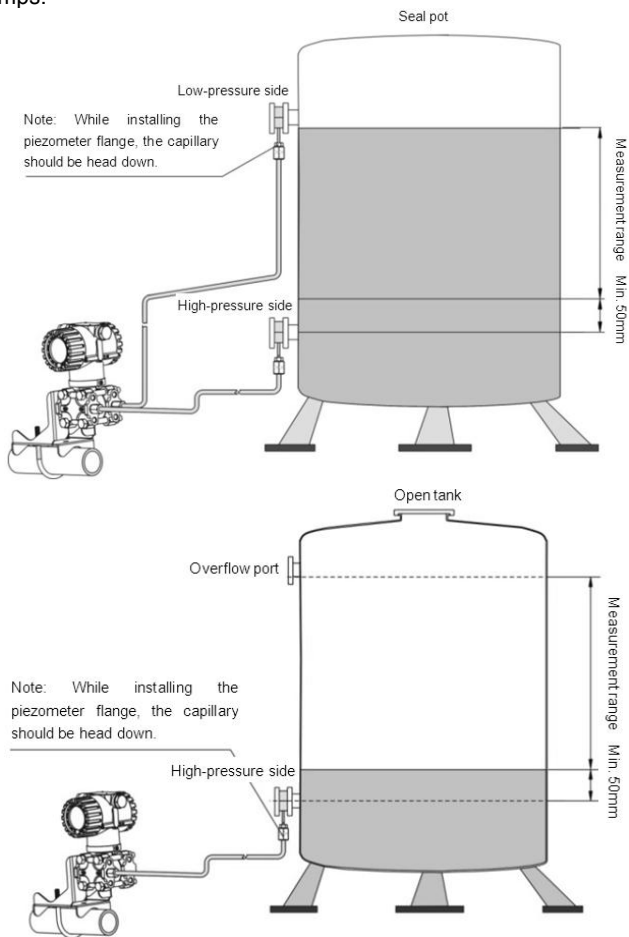

Fig.7-3
- 1) While measuring the liquid level, the lowest liquid level (zero point) should be located at a place, which is more than 50mm away from the sealing center of the high-pressure side diaphragm, see Fig. 7-3.